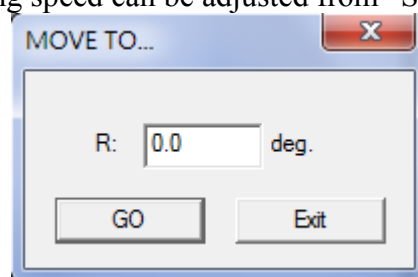

Fig. 1.7.33
1. Click “MOVE TO...” button and input the degree value in the dialog box like Fig.1.7.33 and click “GO,” the rotary axis will rotate to that specific angle. The rotating speed can be adjusted from “Speed” parameter.